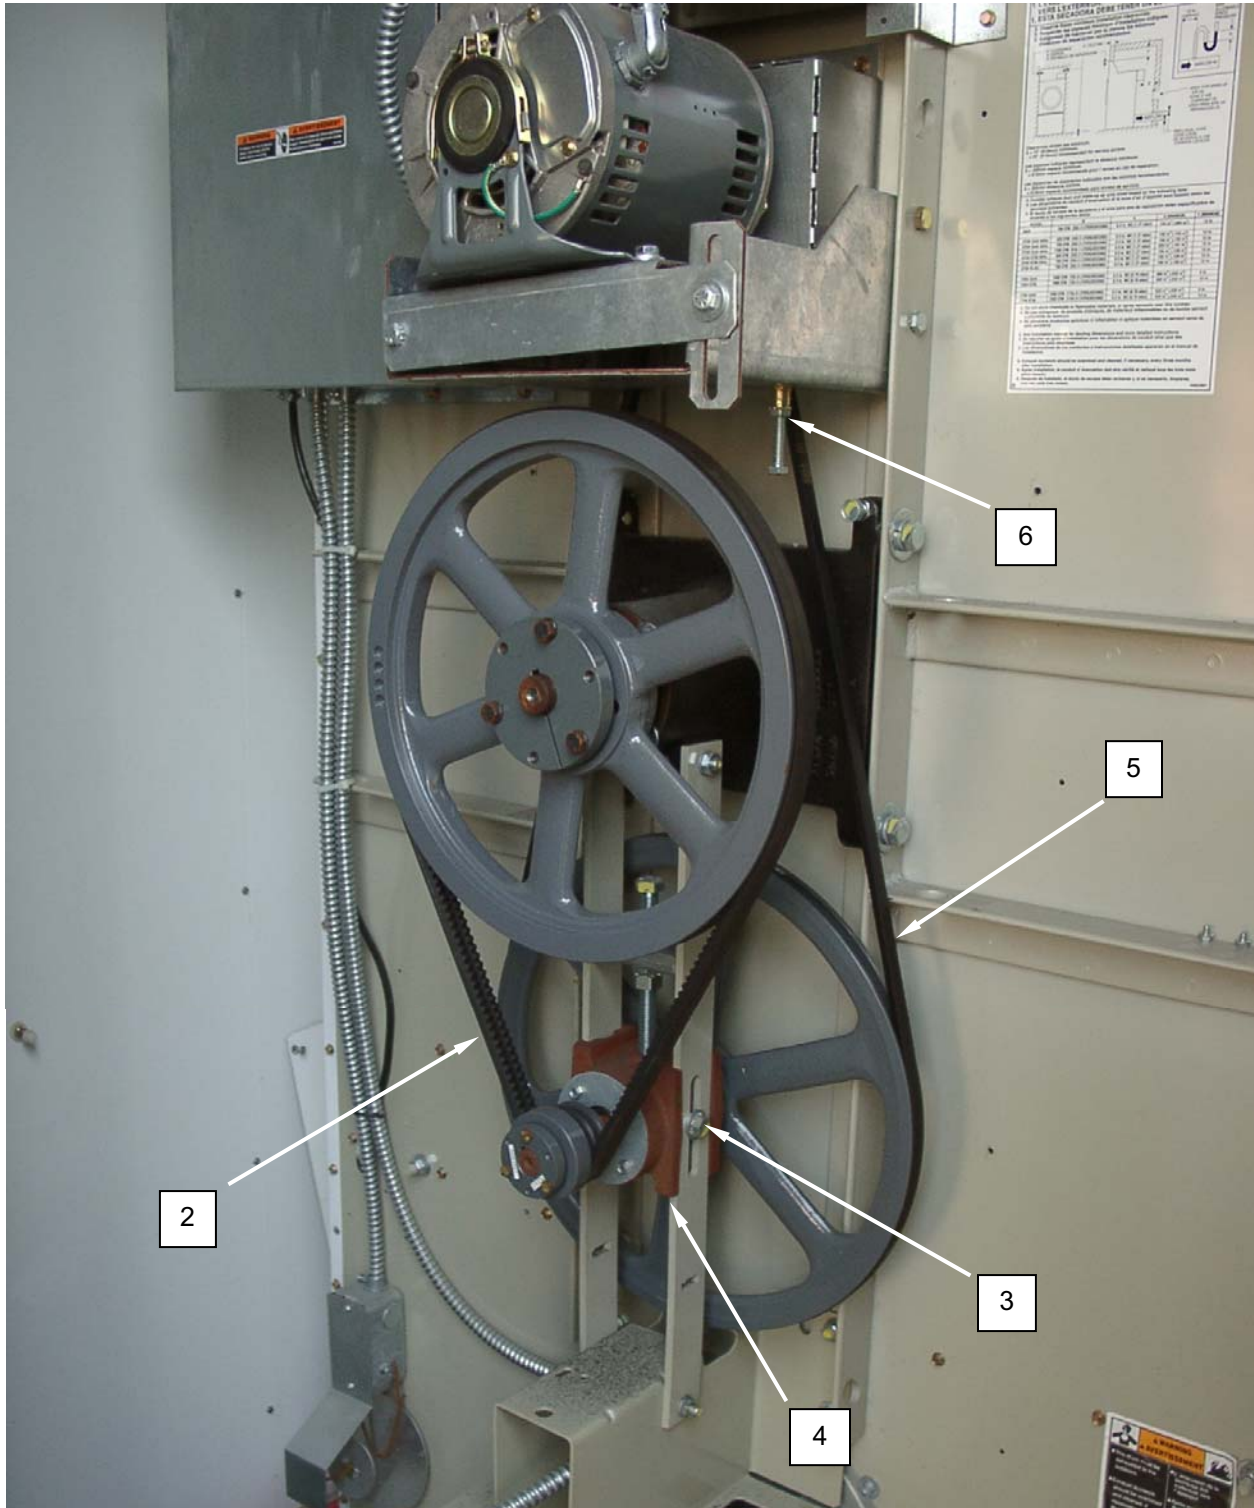

Figure 2. Adjust the Dryer Drive Belts.
3. Adjust outer belt (**Figure 2, Item 2**) first by loosening pulley adjusting screws (**Figure 2, Item 3**), increasing or easing tension on belt by moving idler housing (**Figure 2, Item 4**) up or down, and locking idler housing in place. A correctly adjusted belt should have approximately ½-inch deflection.
4. Adjust inner belt (**Figure 2, Item 5**) by loosening motor adjustment (**Figure 2, Item 6**), increasing or easing tension as necessary by moving motor up or down, and locking motor in place. A correctly adjusted belt should have approximately ½-inch deflection.